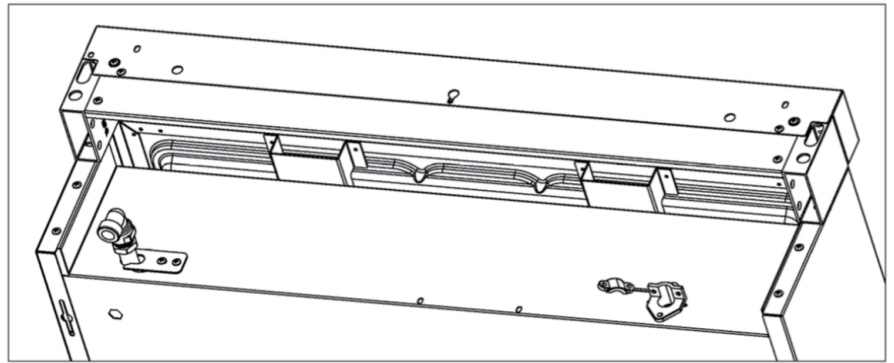

Fig. 5
- 1) Unscrew by hand the upper metal stopper of the regulator (Fig. 5).